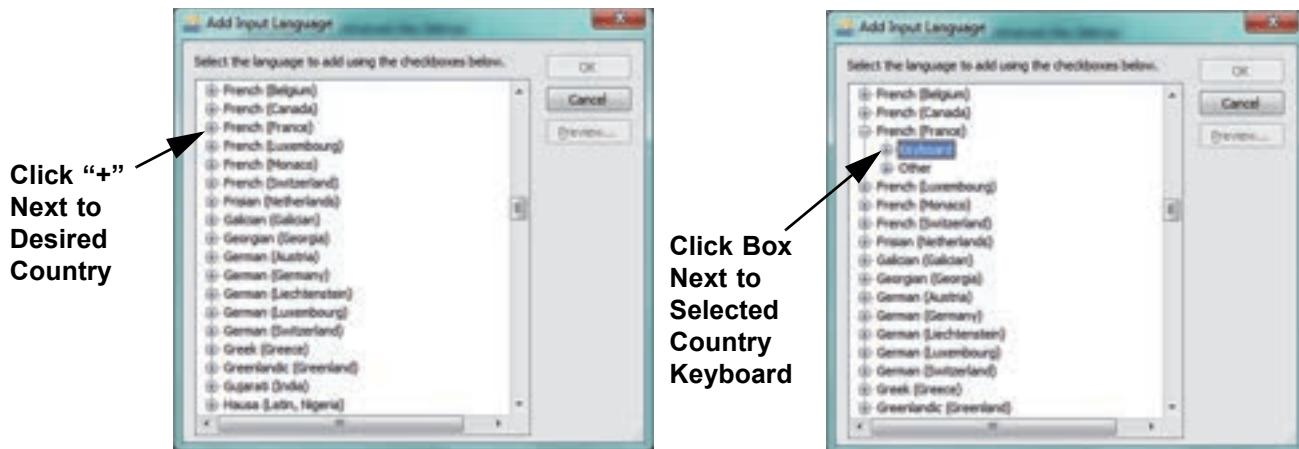
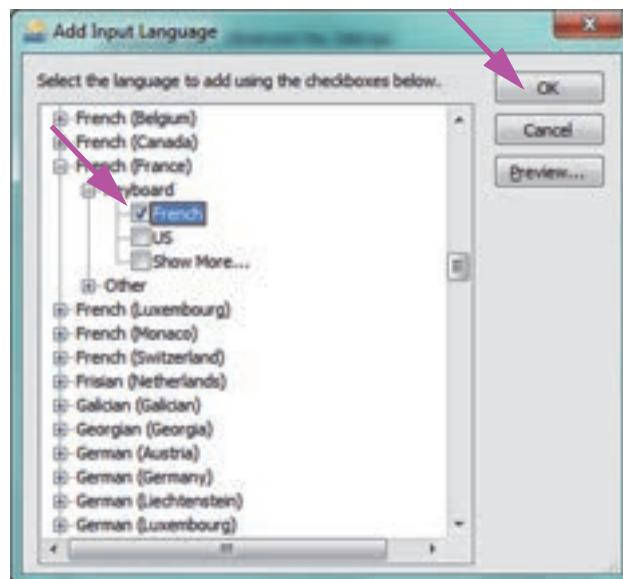

Figure C-9. Add Input Language Screen with French Selected (Example)
Figure C-10. The Add Input Languages Window with all Entries
4. On the Add Input Language window, use the drop-down menu to select the desired Language (Country) combination, click the **+** next to the Language (Country), and then click the **+** next to the Keyboard (see Figure C-9).
5. After selecting the new keyboard which corresponds to the language selected in Figure C-9, a drop-down menu will appear beneath the keyboard selected (see Figure C-10).